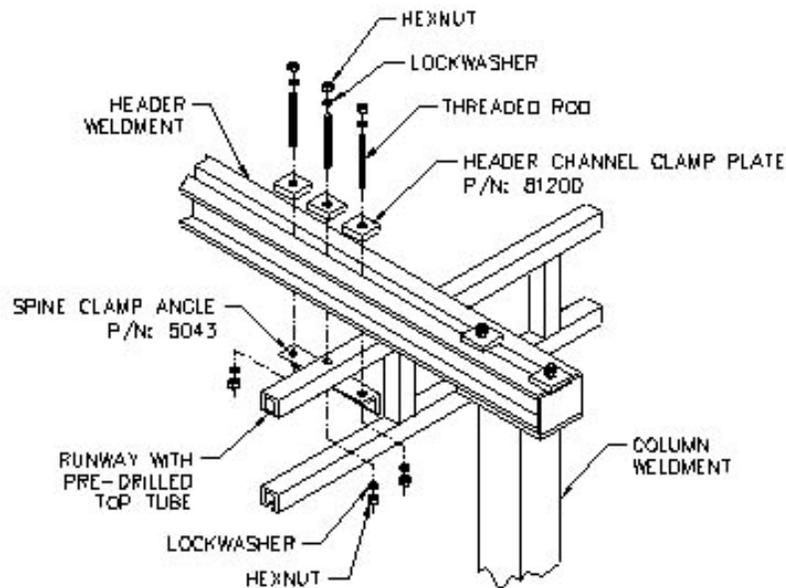

Figure 1.
2. Using the clamp plates and hardware provided, attached runway section to header weldment, as shown in Figure 1.